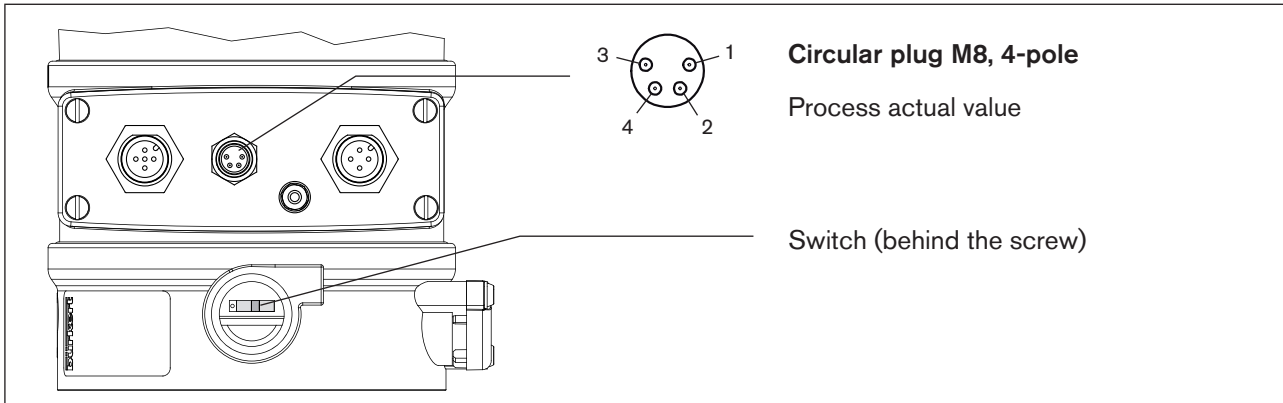

Figure 121: Connection DeviceNet - Process actual value - Type 8693
74) The switch is situated behind the screw (see "Figure 121 : ").